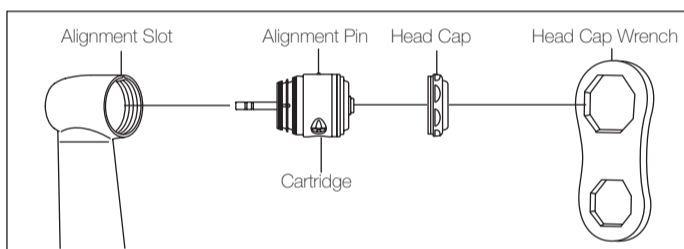

Fig. 7
- 6) Replace the Head Cap. (Fig. 7)